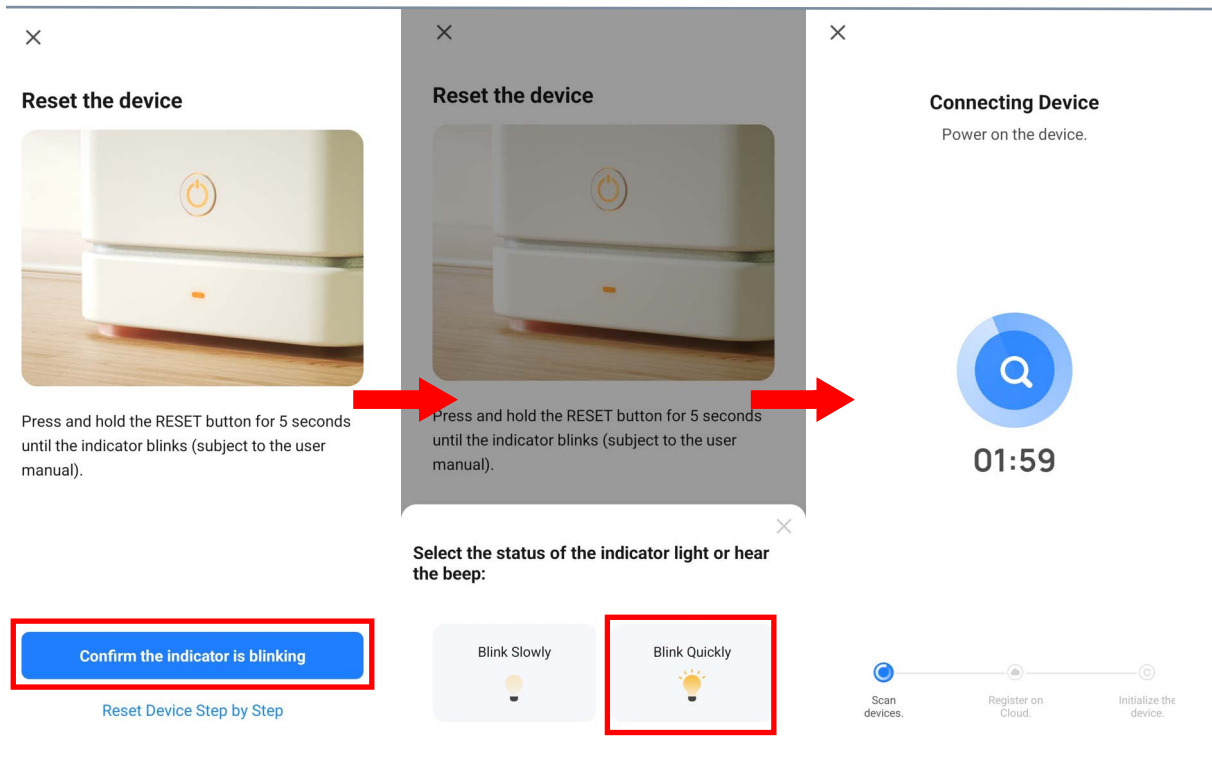

Figure 6: Connecting the heater to the app using EZ Mode
- a. The  symbol flashes fast – twice per second. This is EZ or Smart mode. See **Figure 6** below.